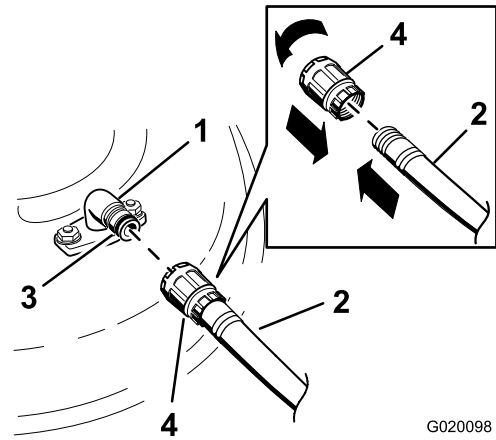

Figure 66
3. Attach the hose coupling to the end of the mower washout fitting, and turn the water on high (Figure 66).